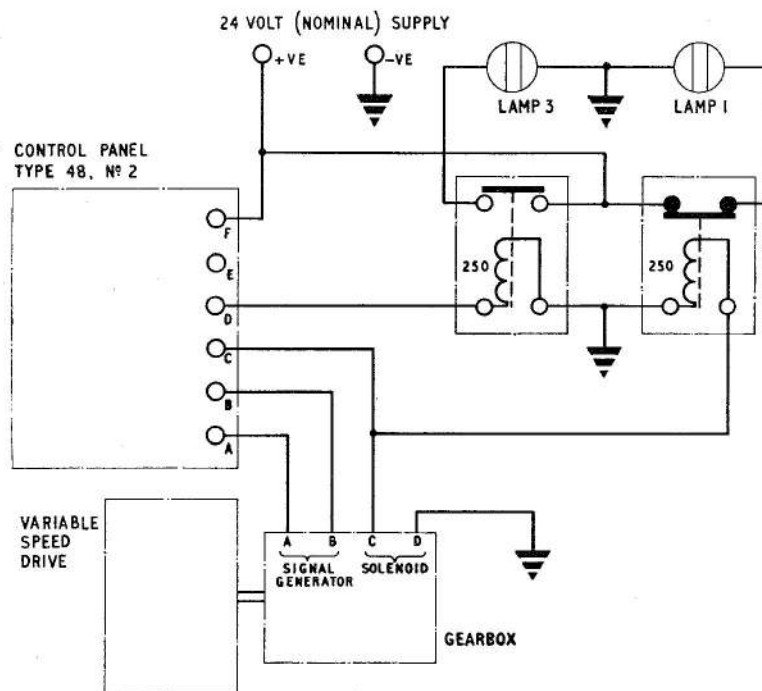

Fig. 5. Test circuit diagram
- (2) Apply a thin layer of Silastomer 9161 mixed with 3 per cent by weight of Catalyst N.9162.
- (3) Fit the cover and the cover plate to the box immediately and screw down. ▶
9. Connect the control panel to the test circuit as shown in fig. 5. The tests should be performed using a Plessey two-speed gearbox (Ref. No. 5UA/7184) driven by a suitable variable speed test set. The relays incorporated in the test circuit for switching the indicating lamp should be designed for operation from a 24V d.c. supply and should have an operating coil resistance of approx. 250 ohms. Before commencing tests remove the side cover plate to gain access to the adjusting screws for inductors L1 and L3.
- 10. (1) Rotate the screw controlling the air gap for inductor L1 fully clockwise.